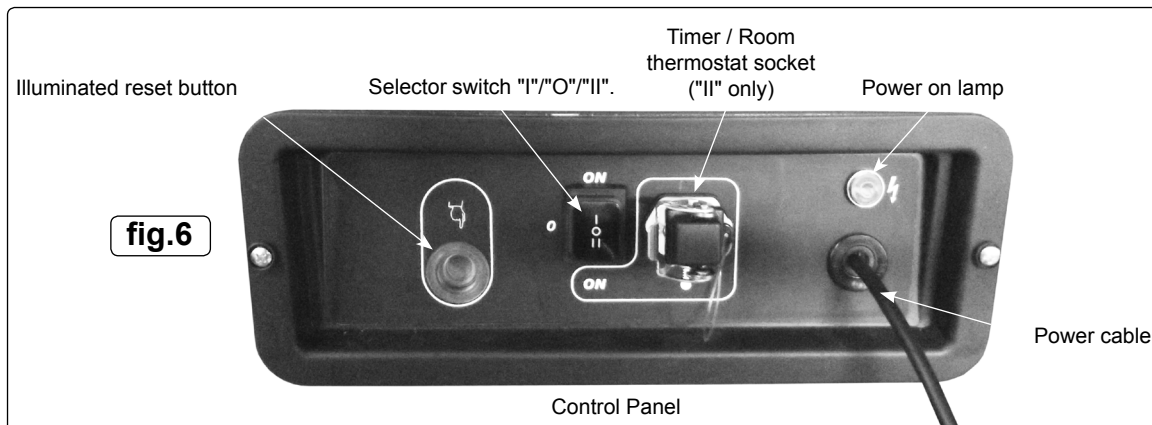

fig.6
**NOTE:** Always place on a flat, stable and level surface and check the electrical supply conforms to the data on the model plate. It is preferable to start the heater outdoors for the first time to allow any oils left over from the manufacturing process to be burnt off safely; run it for 10 minutes on this first burn. On first starting or if the heater is started after the oil tank has been emptied; the flow of oil to the burner may be impaired by air in the circuit. In this case the automatic digital control system will cut out ("safety lockout system") the heater and it might be necessary to renew the starting procedure by depressing the reset button on the control panel (fig.6). This button will illuminate; wait two minutes before resetting. Repeat if necessary.
5.1.3. Plug the power cord into a suitable power socket, indication of power will be shown by the power light illuminating in fig.6. If using an extension lead see Section 1.1.11.